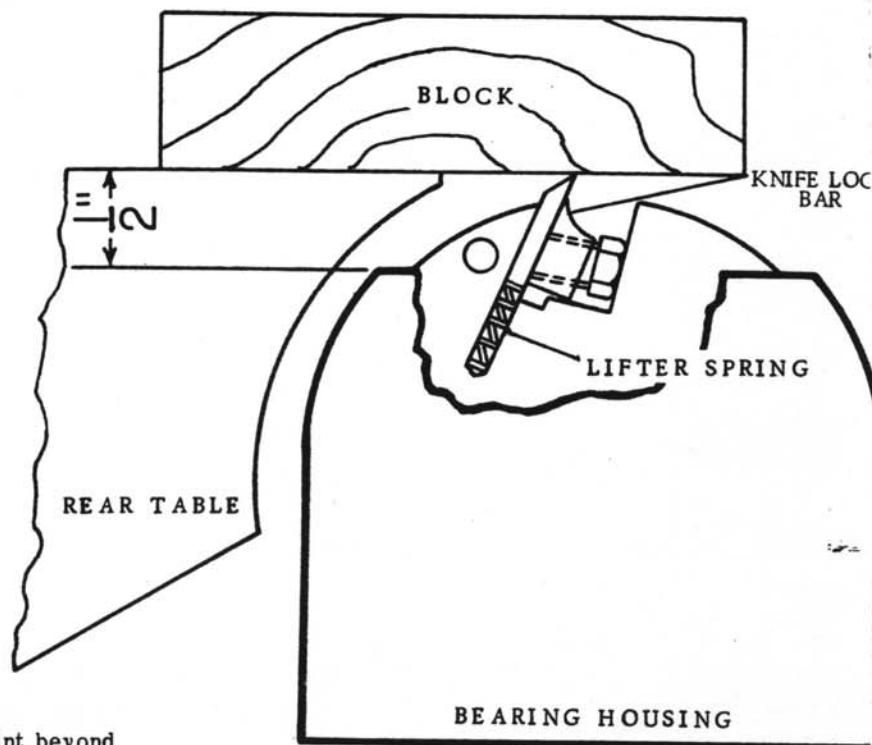

Figure 10
1. Set rear table to 1/2" above bearing housing, see Fig. 10.
12. After the three knives are installed, the rear table must be raised slightly because the position of each knife when set, was below top dead center, see Fig. 10.